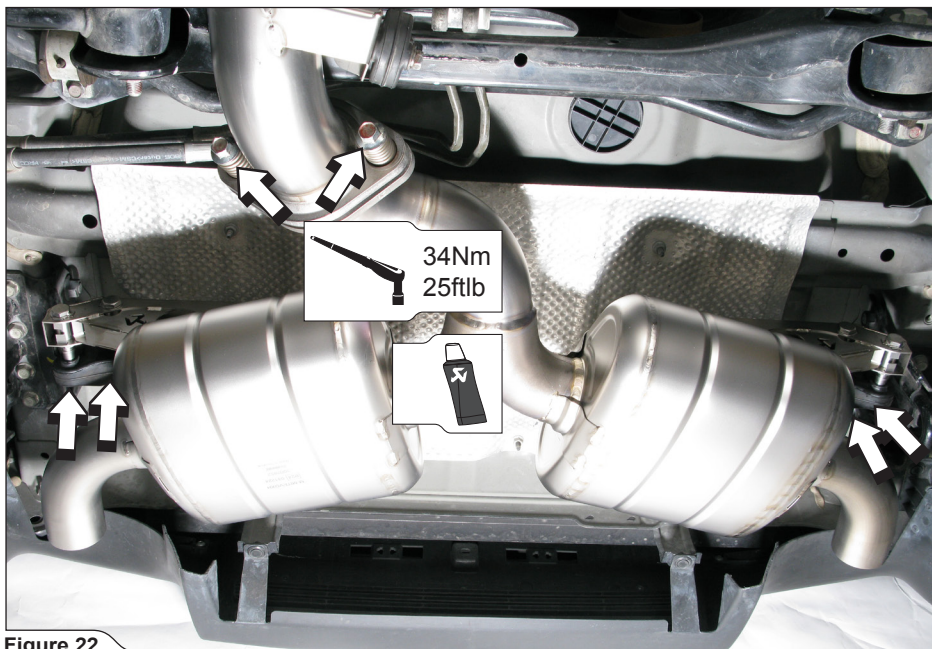

Figure 22
11. **For Evolution only:** hang the mufflers on the stock rubber brackets and attach the middle pipe and mufflers' inlet pipe, using stock bolts and springs (**Figure 22**).